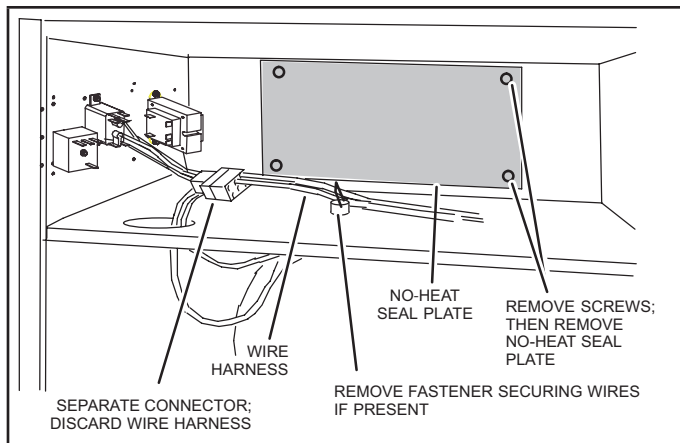

FIGURE 1. Prepare to Install Heat Element
- 3 - Disconnect any existing field supply wires and pull them out of the air handler. Disconnect and remove wiring harness and fastener (see figure 1). If not removed, these items will prevent the heat section’s base from resting properly in the compartment.
- 4 - Remove the no-heat seal plate in the air handler frame (see figure 1).